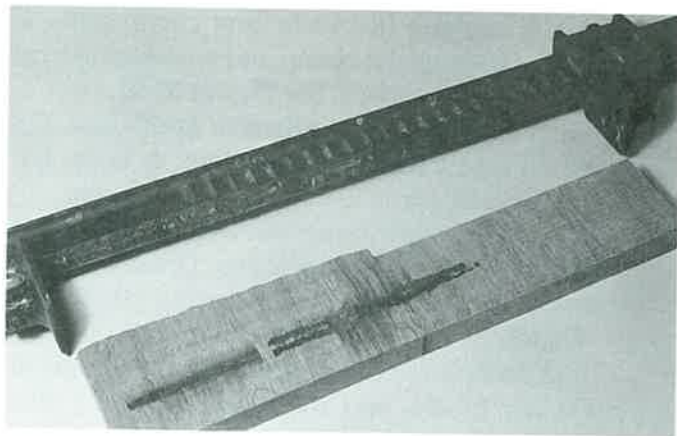

Figure 33-22. Typical wood stain caused by bar clamp.
- * Cut and place wax paper between clamps or backer blocks and the workpiece at a glue joint. This prevents clamps from being bonded to the assembly. It also retards stain marks caused by glue contact with metal clamps. See **Figure 33-22**. For wood hand-screws, consider coating them with paste wax or silicone spray.